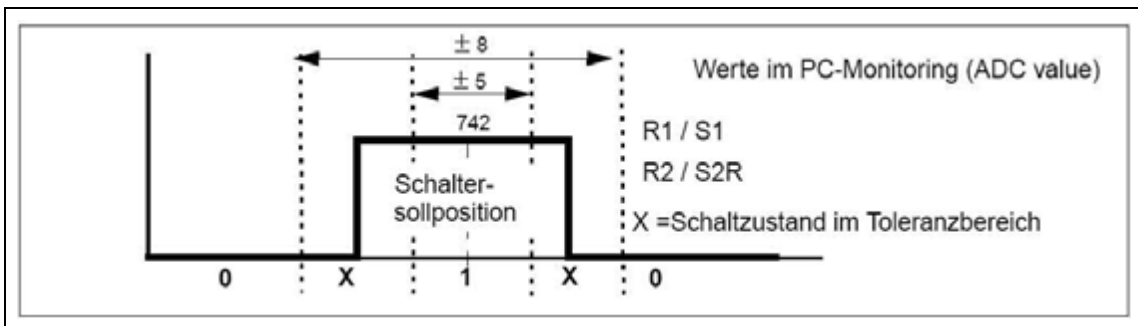

Fig. 21: Switching hysteresis S1_S2
- Check the switching hysteresis of the reference switch S1/2 according to (Fig. 21 / p. 56).